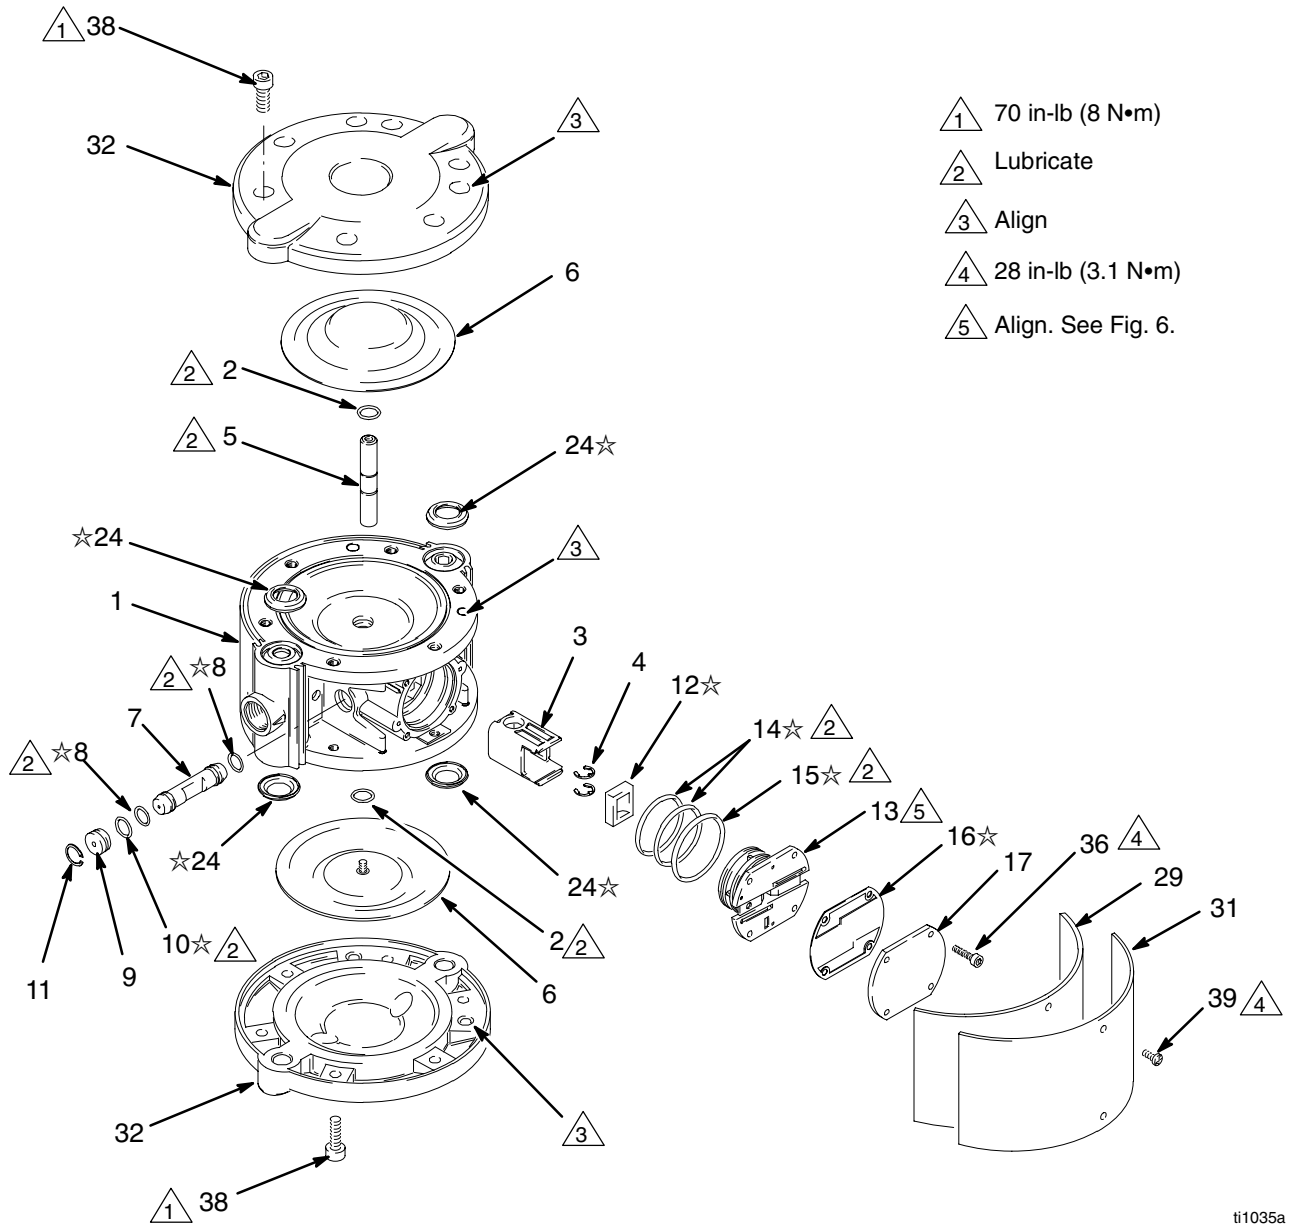

Fig. 8
1. Remove the fluid covers. See page 14. Remove the side cover (31) and felt dampener (29).
3. Remove the diaphragms (6). See page 17.
4. Remove the retaining rings (4) from the shaft (5). See Fig. 8.
5. Slide the shaft (5) out of the center housing (1). Remove the valve carriage (3) from the housing.
6. Remove the o-rings (2) from the shaft (5).